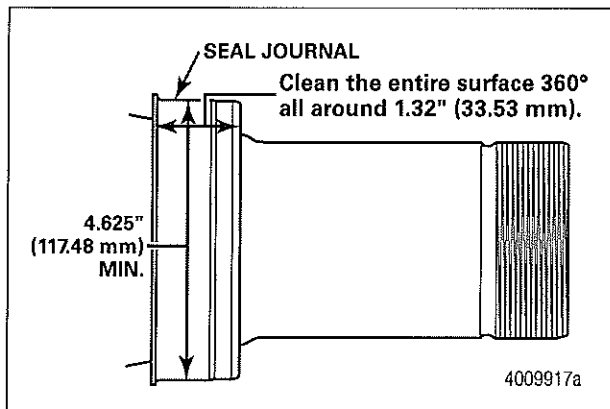

Figure 15
4. Measure the collar to ensure the diameter is 4.625-4.630-inches (117.48-117.6 mm). Figure 15.